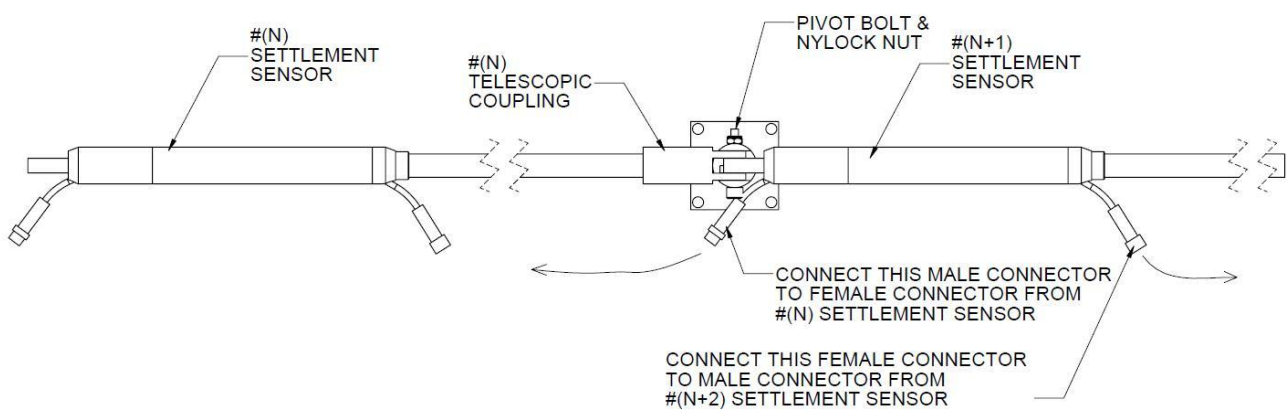

Figure 5: Connecting next set of Settlement Sensor
12. Attach the next set of Settlement Sensor onto the Anchor Plate. (See figure 5)
15. Connect male connector from #(N+1) Settlement Sensor to female connector from #(N) Settlement Sensor.